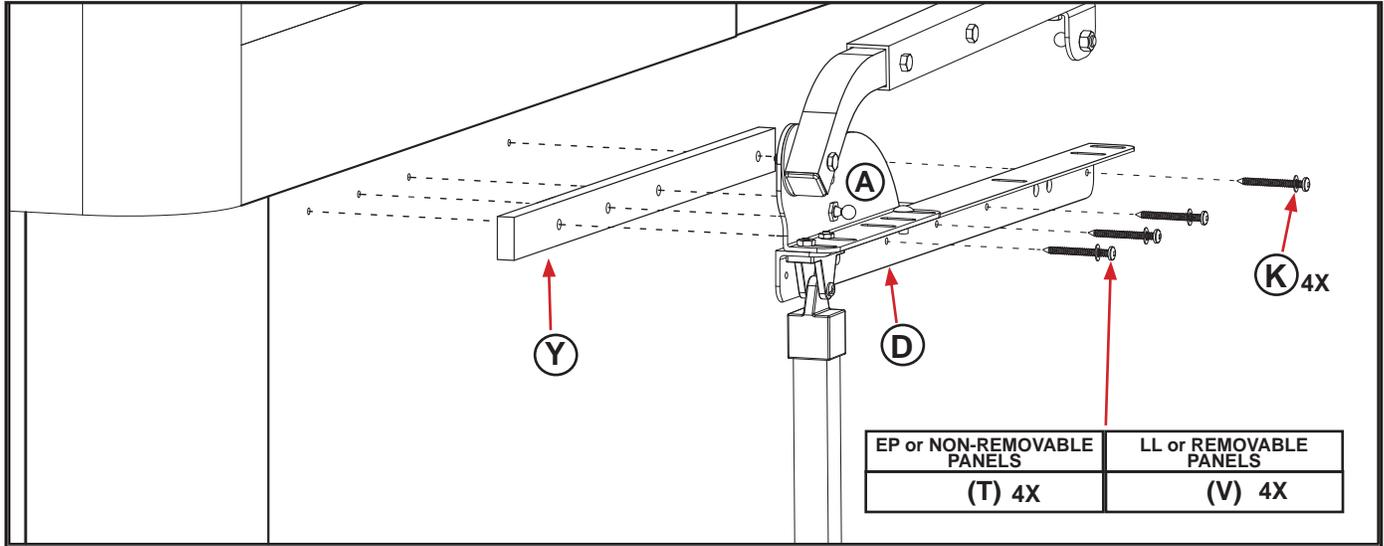

Figure 2.3
- 5a. Align the Spacer (Y) and Auxiliary Bracket (D) by making sure that the Auxiliary Bracket holes are aligned with holes on Spacer (Y) (Figure 2.3).
- 6a. Making sure that the Spacer (Y) is aligned between cabinet and Auxiliary Bracket (D), secure Auxiliary Bracket (D) and Spacer (Y) to spa cabinet using (4) 2" Pan Head Screws (T) in Bag #2 and (4) #10 Washers (K) in Bag #1 (Figure 2.3).
- 5b. Align the Spacer (Y) and Auxiliary Bracket (D) by making sure that the Auxiliary Bracket holes are aligned with holes on Spacer (Y) (Figure 2.3).
- 6b. Making sure that the Spacer (Y) is aligned between cabinet and Auxiliary Bracket (D), secure Auxiliary Bracket (D) and Spacer (Y) to spa cabinet using (4) 3" Pan Head Screws (V) in Bag #3 and (4) #10 Washers (K) in Bag #1 (Figure 2.3).